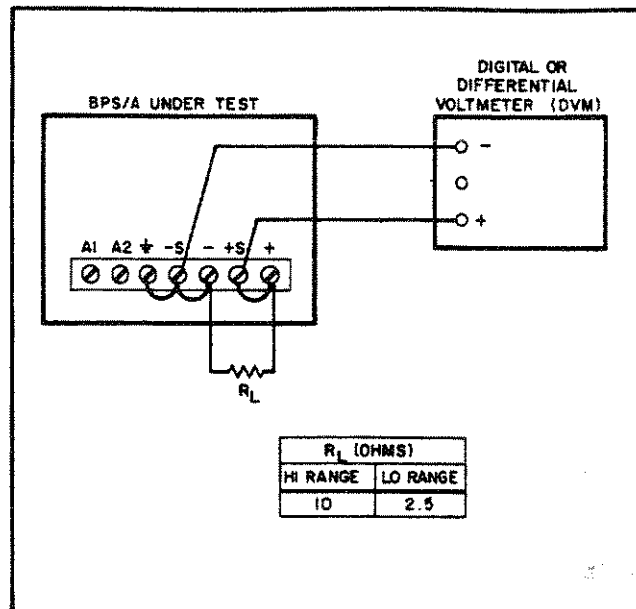

Figure 5-1. Power Supply Mode Test Setup
- Connect high range load resistor ( $R_L$ ) across output terminals (see Figure 5-1).
- Turn off BPS/A. Change load resistor  $R_L$  to low range value (see Figure 5-1) and set RANGE switch to X1.
- Connect the test setup shown in Figure 5-1. Use high range (X4) load resistor value.
- Connect the test setup shown in Figure 5-1. Use the high range (X4) load resistance value.